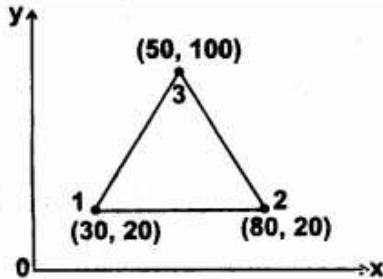

figure 3.7
7. For the plane stress element shown in figure 3.7. Evaluate the stiffness matrix. Assume $E = 210 \times 10^9 \text{ N/mm}^2$, poisson's ratio $\mu=0.25$ and element thickness $t=10\text{mm}$. The coordinates are given in millimeters.